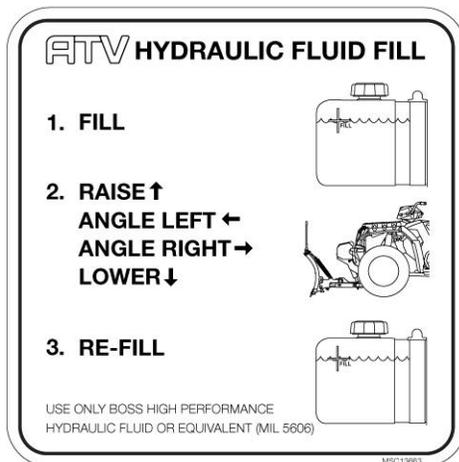

Figure 14. Hydraulic Fluid Fill Procedure
4. Fill the Power Unit reservoir to the fill line with Boss High Performance Hydraulic Fluid or equivalent (MIL 5606) (Approx. ½ quart) as shown in Figure 14.
8. Re-install the Coupler Cover (42) and Plastic Rivets (43A).